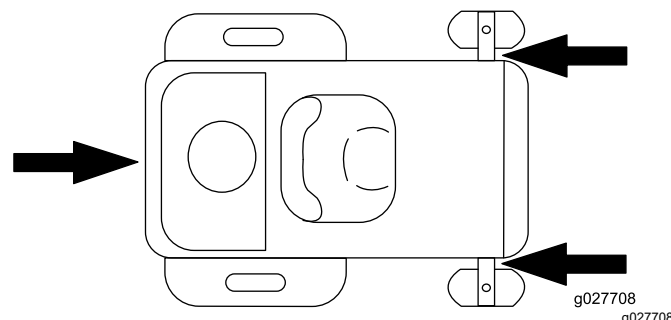

Figure 34
6. Tie down the machine near the front caster wheels and the rear frame with straps, chains, cable, or ropes (Figure 34). Refer to local regulations for tie-down requirements.